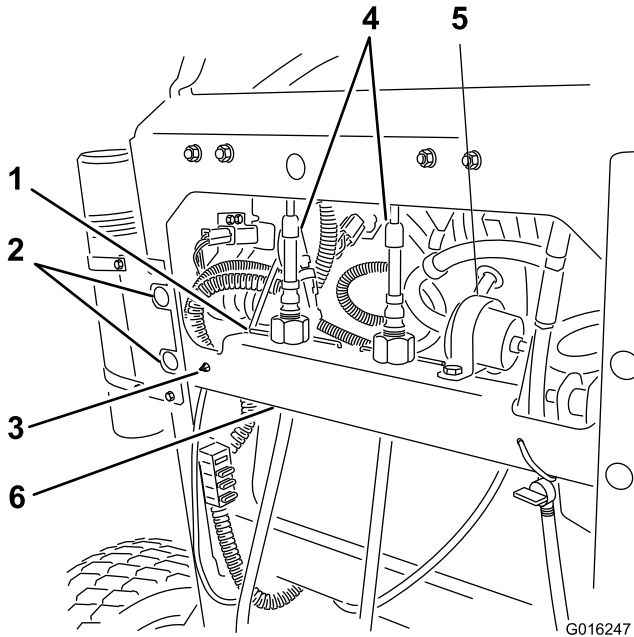

Figure 5
1. Remove the wire spring holding the adjustment nuts for tracking (Figure 5).
3. Slide the cables out of the cross bracket (Figure 5 and Figure 12).
6. Loosen the large R-clamp and remove the filter from the R-clamp (Figure 5).
7. On the left hand side of the cross bracket, squeeze the conduit clip and push it through the cross bracket (Figure 5).
8. Remove the cross bracket from the machine by removing the four bolts. Do not discard this hardware and cross bracket (Figure 5).